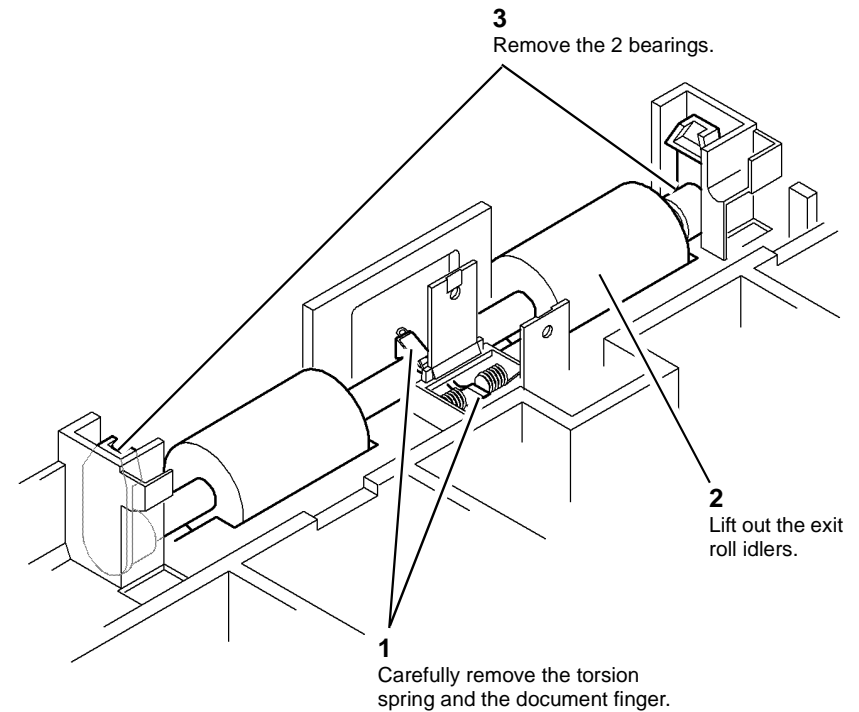

Figure 2 Exit roll idlers
4. Remove the exit roll idlers, Figure 2.